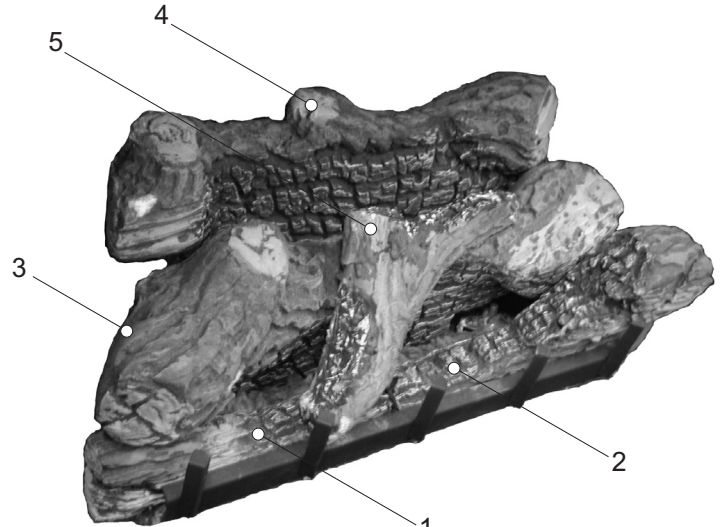
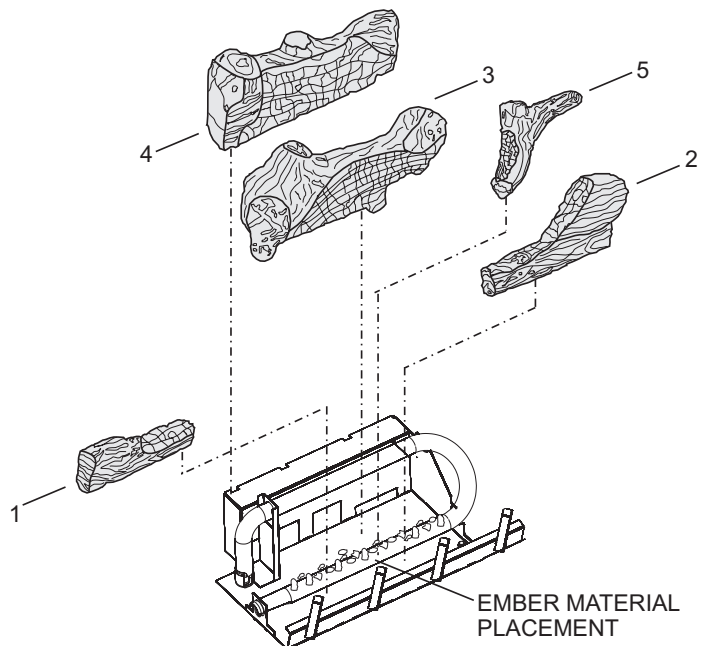

Figure 16
Figure 17
The positioning of the logs is critical to the safe and clean operation of this fireplace. Sooting and other problems may result if the logs are not properly and firmly positioned in the fireplace. Please refer to **Figure 16** and **Figure 17** and corresponding WARNING when completing following log placement instructions.
6. After all logs are positioned properly, apply Rockwool ember material to the front burner port area. To apply, carefully separate the ember material into small amounts no larger than "dime size" pieces. Fluffed up pieces one layer thick on top of the burner generally works best, and will provide the best ember glow. Do not place ember material more than one layer thick. No more than (1) small packet of ember material (part no. 15999) evenly placed on the burner, is recommended on BVD34 and BVD36 models. Using additional ember material will decrease the amount of ember glow effect. Extra ember material should be saved for future ember applications as necessary. See Figure 17.
**Attention:** Do not use Figure 16 or Figure 17 to order logs. Refer to parts list on page 28 and parts view on page 29 to order logs and/or ember material for your appropriate fireplace model.